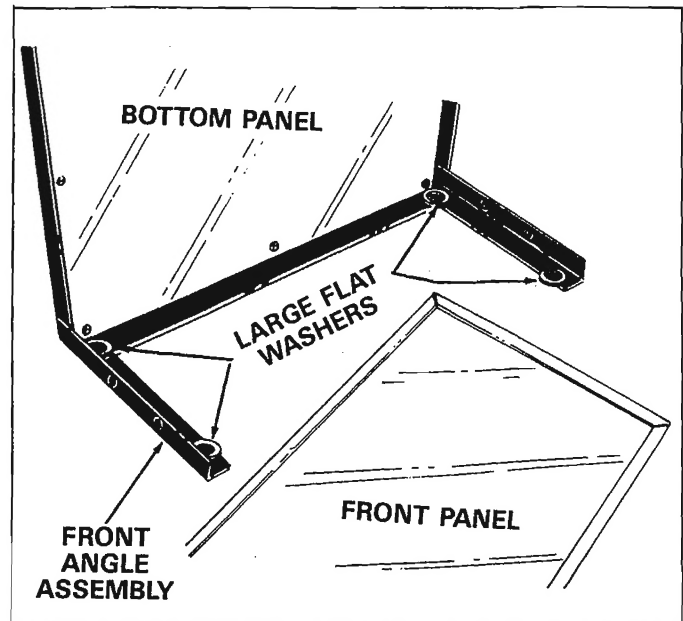

FIGURE 4
6. Stand cart on its front end with front angle assembly on the floor. See figure 4.
7. Place four large  $1-1/2"$  dia. flatwashers (used on wheel axle) on the inside of front angle assembly. See figure 4.